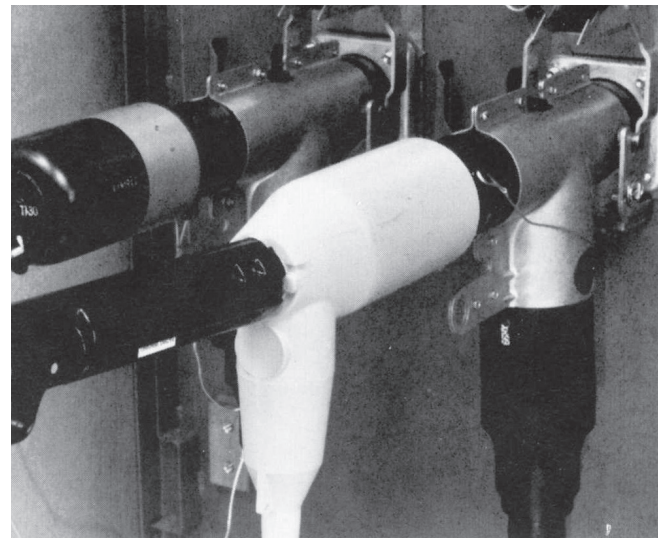

Figure 6. Provide a visible ground with a grounding elbow.
- Close grounding elbow into PUSH-OP 200 A interface using a hotstick. Refer to Figure 6.